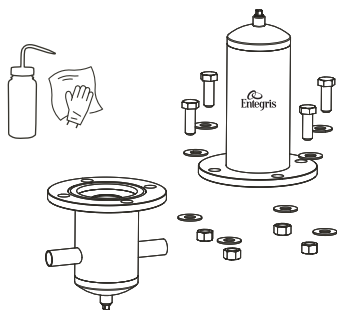

Figure 2.
1. Wet with isopropyl alcohol (IPA) wipes (recommended IPA >95%) to clean the inside and outside housing surface, Figure 2.
1. Remove the bolts, nuts, and washers from middle of housing with appropriately sized wrench, Figure 2.
2. Carefully remove the top half of the housing, Figure 2.